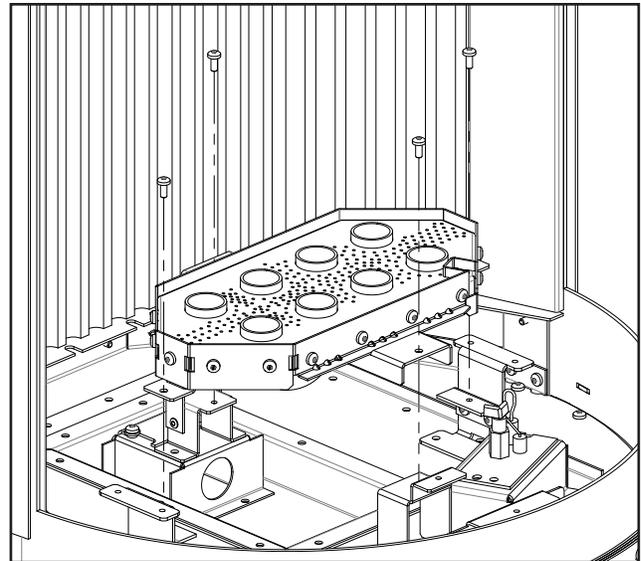

Figure 35: Burner Removal
Remove the four (4) screws securing the burner pan using a T20 screwdriver. Rotate the burner upward and lift out (see Figure 35).